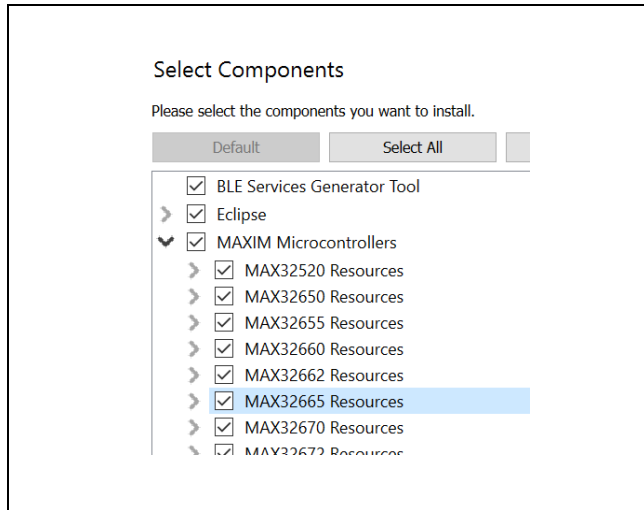

Figure 1. Select Components Window
**Note:** When selecting the target microcontroller, be aware that only the first part number in the sequence is shown (see Figure 1).